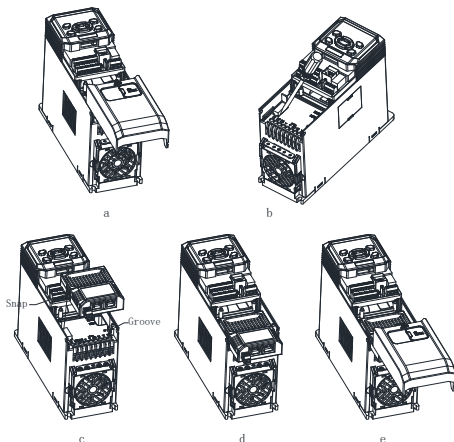

Fig. 4 PN card installation steps
- (1) When the drive is powered off, press the granulated part on the middle-upper of the lower cover, slide it down firmly to take down the cover, as shown in Fig. 4 a.
- (2) Use a straight screwdriver to pry open the dustproof cap or rubber plug, as shown in Fig. 4 b.
- (3) Install the PN option: hold the expansion box (a bus card inside) upwards (indicators up), then align the expansion box with the electrical bus interface of the installation position, and press down horizontally to buckle the spring
snap of the expansion box into the groove at the lower part of the drive, as shown in Fig. 4 c and d.
(4) The bus card is successfully installed, as shown in Fig. 4 e.